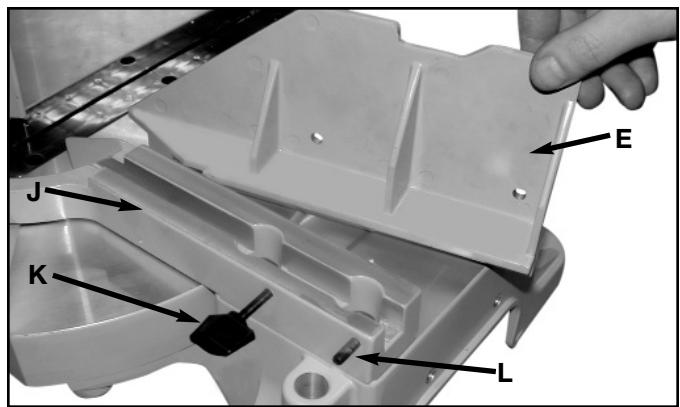

Fig. 7C
1. Position the sliding fence (E) Fig. 7C, on top of saw fence slide support(J). Install thumb screw (K) and set screw (L) but do not tighten at this time.